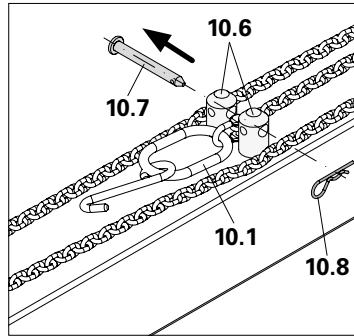

Fig. A3.02a
1. Remove cotter pins (**10.8**) and bolts (**10.7**) from the spigot (**10.6**). (Fig. A3.02a)